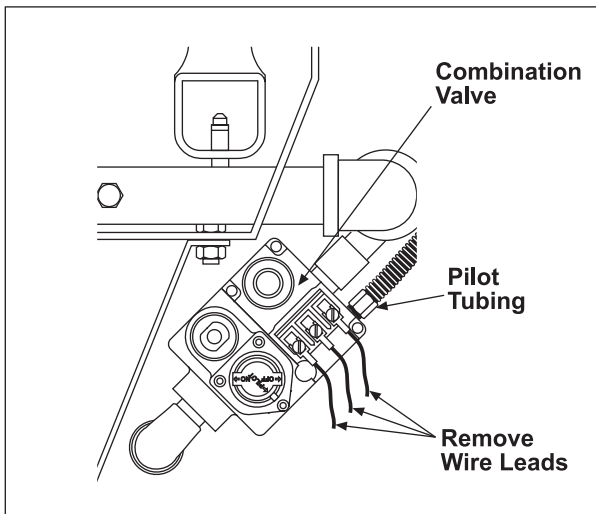

Figure 15
5. Disconnect pilot tubing from combination valve (Figure 15).